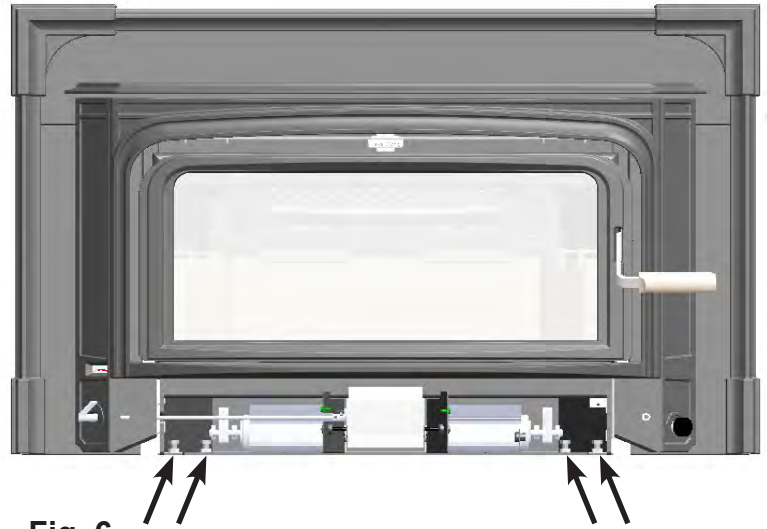

Fig. 6
8. Position stove in fireplace opening. If required, use the four leg leveler bolts to level the firebox. **(Fig. 6)**